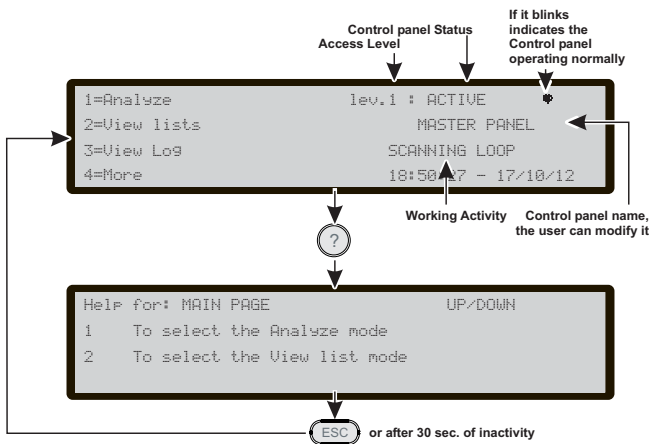

Figure 2 Example of the LCD display after pressing the Help key.
- The Help button (?) to open the **Help** pages on the display (see example in Figure 2).